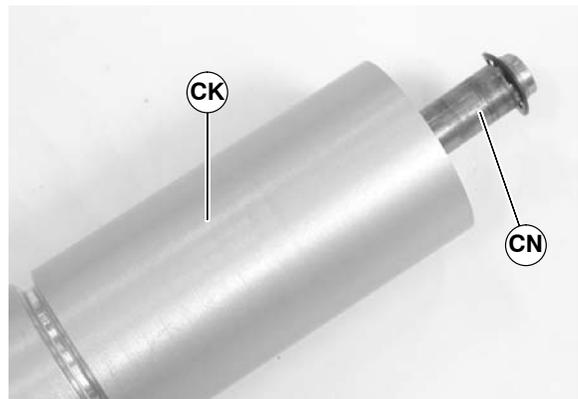

Figure 93
7. Slide the shaft assembly (CN of Figure 93) out of the pulley (CK).